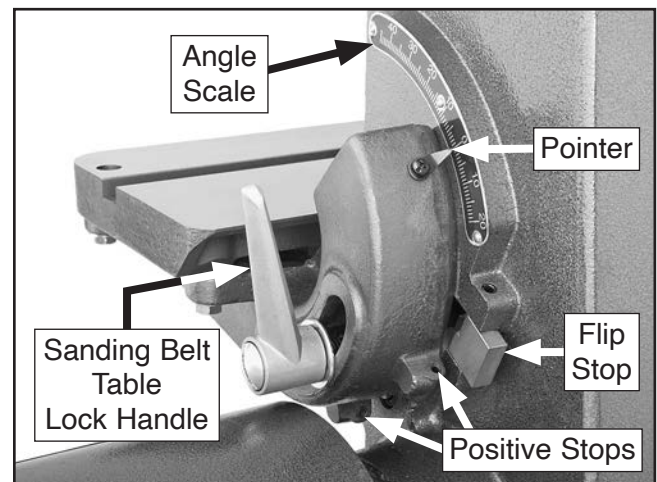

Figure 28. Sanding belt table tilt controls.
The sanding belt table tilts between 20° up and 45° down, and has a flip stop that can be used to engage two adjustable positive stops that are used to quickly return the table to 0° or 45° down (see **Figure 28**).
2. Loosen sanding belt table lock handle (see **Figure 28**).
3. Adjust table tilt until desired angle is displayed on scale (see **Figure 28**), then tighten lock handle to secure.